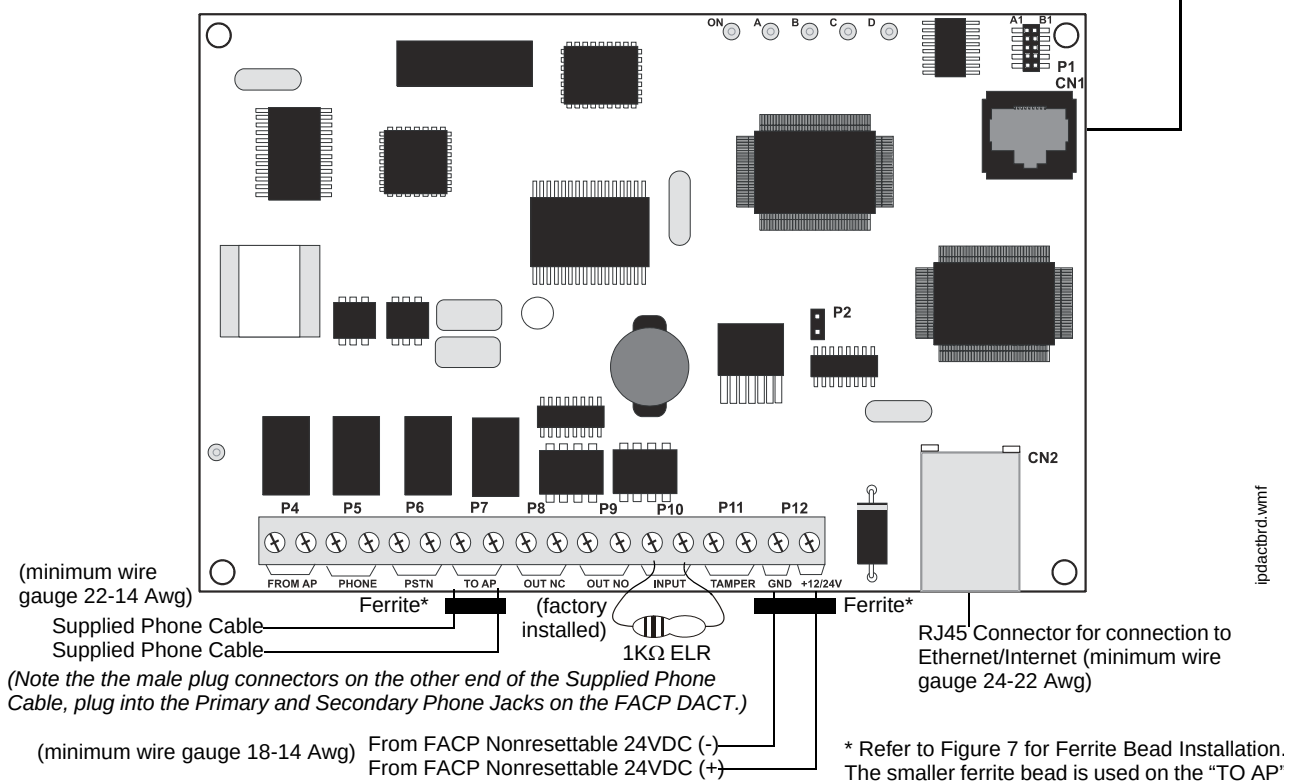
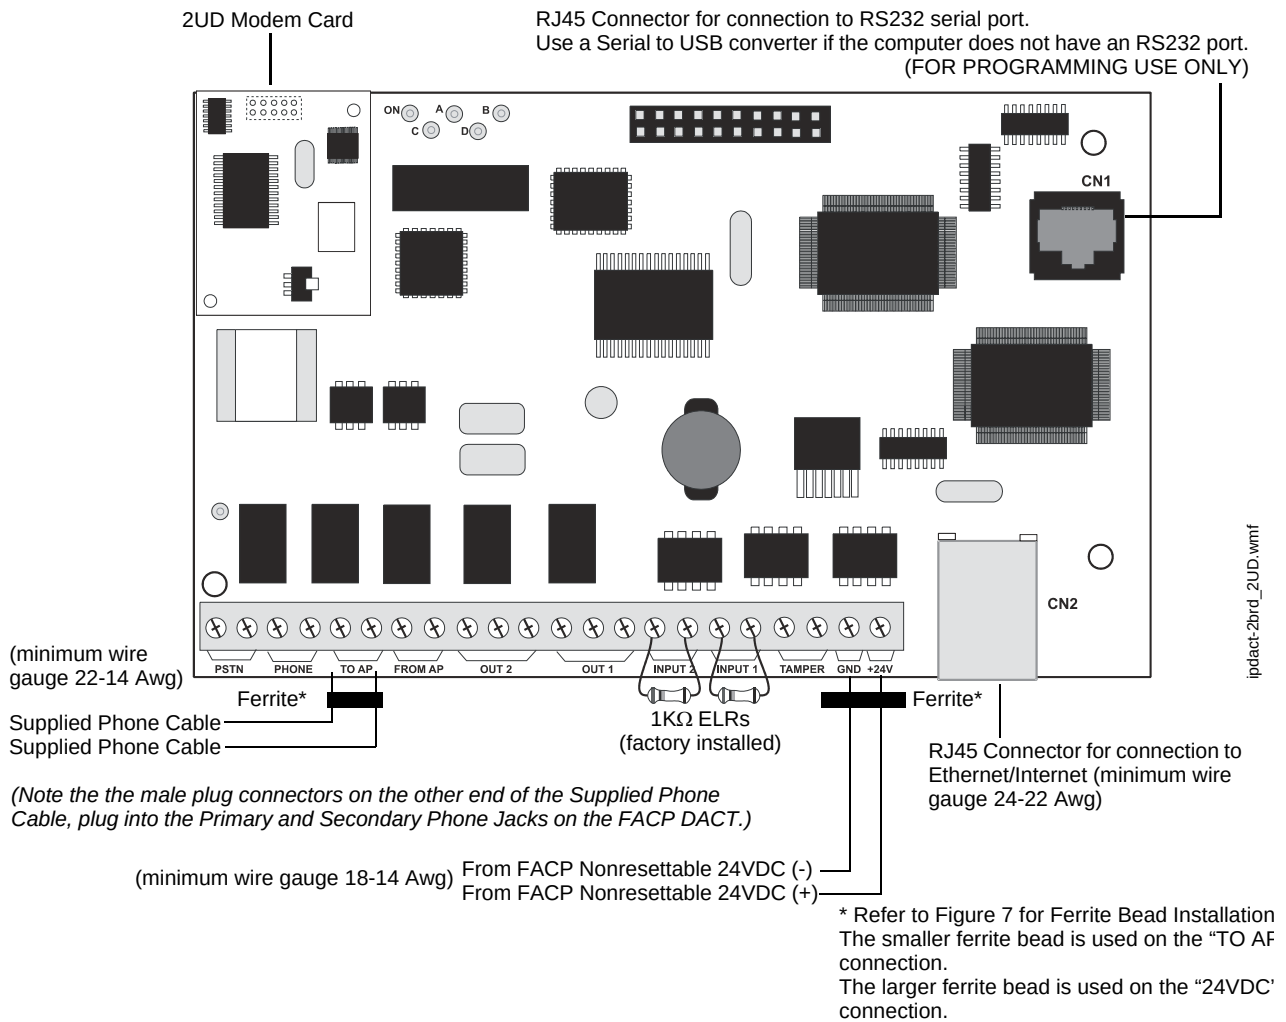
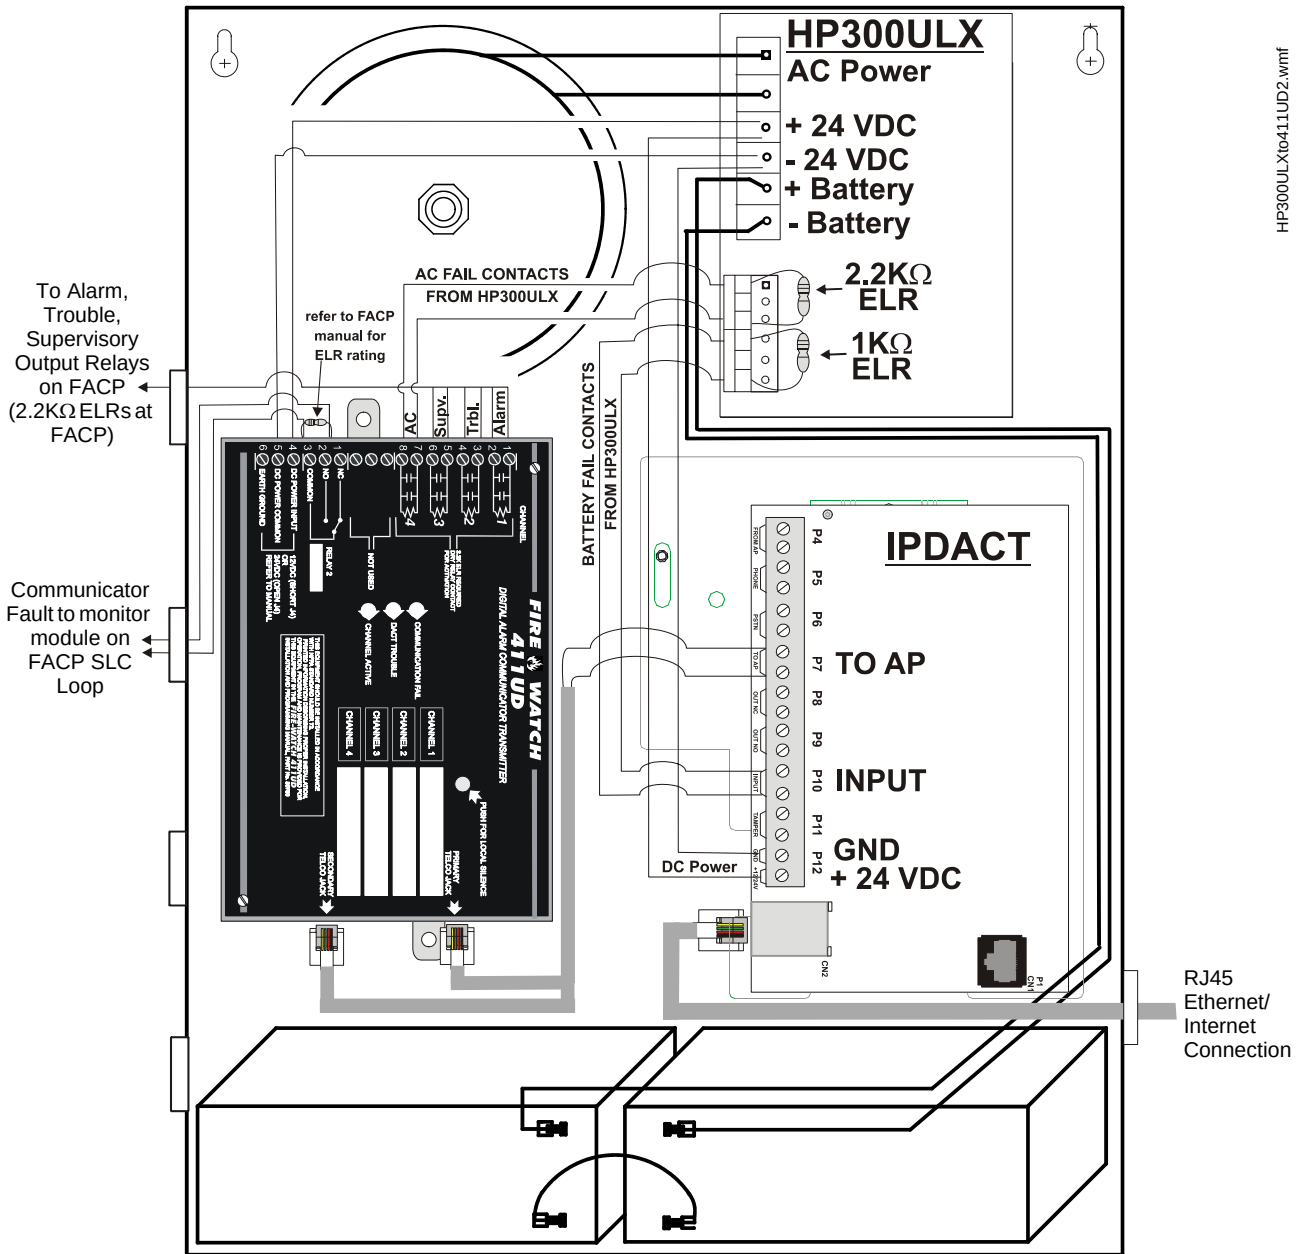
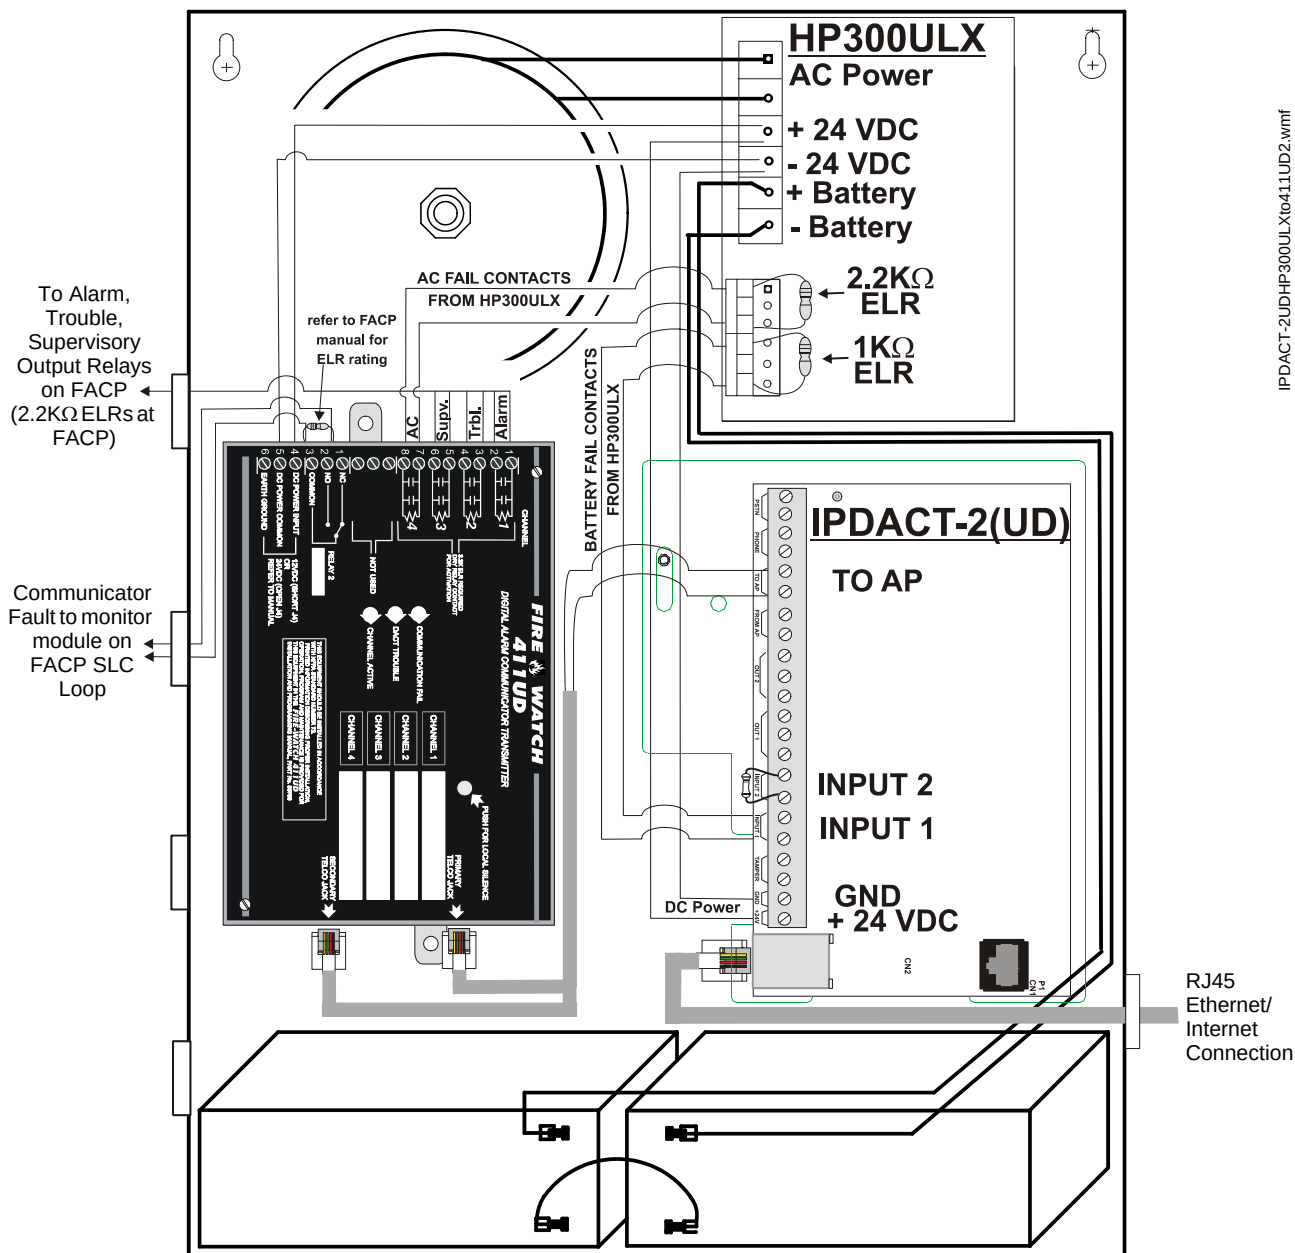

Figure 5 IPDACT Wiring
Figure 6 IPDACT-2 and IPDACT-2UD Wiring
Figure 18 Wiring IPDACT to 411/411UD and HP300ULX
Figure 19 Wiring IPDACT-2 or IPDACT-2UD to 411/411UD and HP300ULX
Figure 5 and Figure 6 detail the connections that must be made between the IPDACT Series and the FACP.
4. Wire the other end of the supplied phone line cable to the **TO AP** terminals as illustrated in Figures 5, 6, 10 and 11 of this document.
7. Refer to the appropriate FACP manual for power specifications and wiring details and to Figures 5 and 6 in this document for IPDACT connection details.
4. Wire the other end of the supplied phone line cable to the **TO AP** terminals of the IPDACT Series as illustrated in Figure 14 (IPDACT) or Figure 15 (IPDACT-2/UD) on the following pages and in Figures 5 or 6 of this document.
9. Refer to the appropriate FACP manual for power specifications and wiring details and to Figures 5 or 6 in this document for IPDACT connection details.
Refer to Figure 18 on page 18 (IPDACT) or Figure 19 on page 19 (IPDACT-2/UD) for wiring details.
3. Wire the other end of the supplied phone line cable to the **TO AP** terminals of the IPDACT Series as illustrated in Figure 18 on page 18 for the IPDACT or Figure 19 on page 19 for the IPDACT-2 and IPDACT-2UD and in Figures 5 or 6 of this document.
4. Connect Nonresettable 24 VDC power from the HP300ULX to the power terminals on the IPDACT and to the power terminals on the 411/411UD as illustrated in Figure 18 or Figure 19.